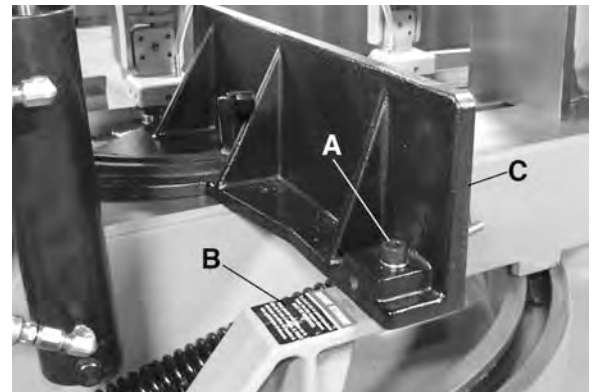

FIGURE 11
The right side vise (C) Fig.11 comes bolted to a support (B) for transportation purposes and must be unbolted before it can be used. Loosen and remove cap screw (A). The vise and pivot table can now be used.